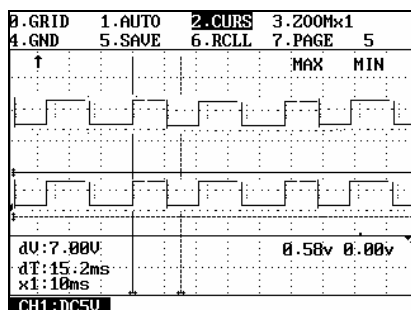

Fig.2-09
When item 2, 3 or 4 is selected, the cursor will be displayed as shown in Fig.2-09.